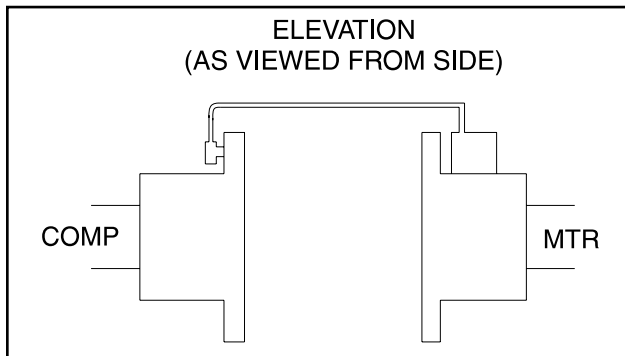

**Figure 1 - Angular Misalignment**
1. To check angular alignment, as shown in Figure 1, attach dial indicator rigidly to the motor hub. Move indicator stem so it is in contact with the outside face of compressor hub, as shown in Figure 2.